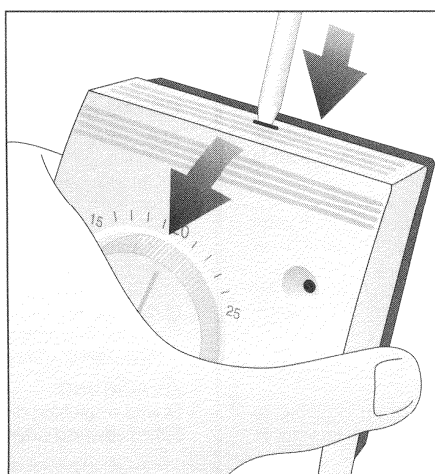
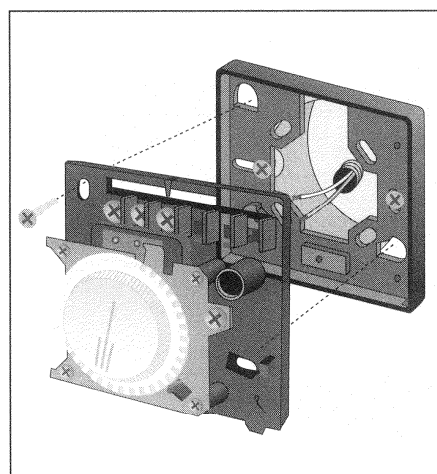
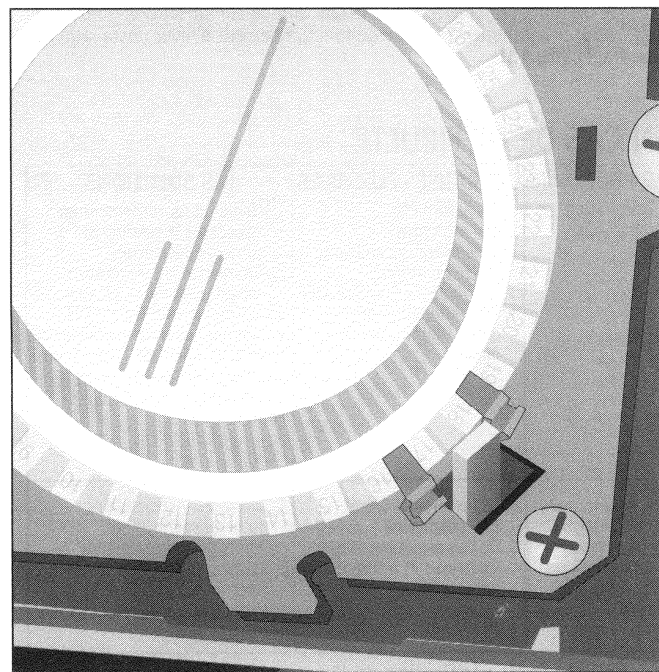

fig.8 - εικ.8
fig.9 - εικ.9
fig.15 - ΕΙΚ.15
B) Remove the front cover from the thermostat base by releasing the provided clip (fig.8), then fix it to the wall (or to the sub-base fitting) through the provided holes (fig.9) and tighten it by means of suitable screws having max of 3,5 mm.
Remove the front cover from the thermostat base by releasing the provided clip. (fig.8)
Position the knob to correspond with the desired temperature value, then separate the base from the cover by pressing the appropriate retaining tooth. (fig.8) Insert the two special accessories (see chapter "Accessories upon Request") on the sides of the metal stop in order to prevent the handle from moving (fig.15); put the lid back on the product.